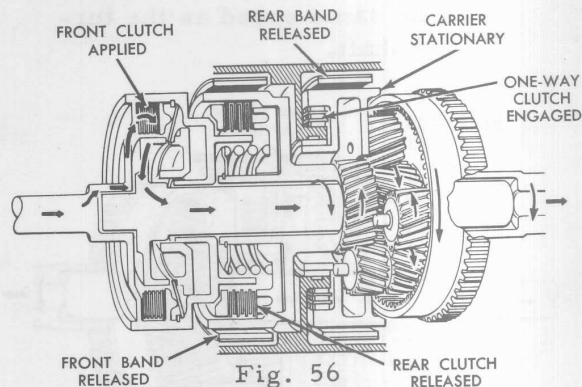

Fig. 56
- ⊗ In first speed when in the Drive 1 selector lever position, the pinion carrier is held against rotation by the one-way clutch instead of the rear band (Fig. 56). First speed in Drive 1 is the only speed that uses the one-way clutch.